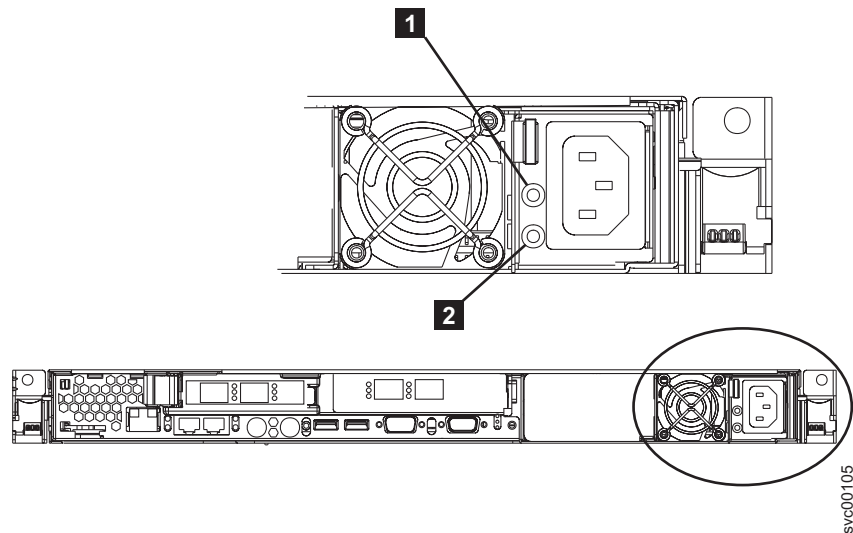

Figure 187. SAN Volume Controller 2145-8F4 or SAN Volume Controller 2145-8F2 ac and dc power LEDs
5. Make sure that the power-supply fan starts and the ac power LED **1** and dc power LED **2** (shown in Figure 187) on the power supply are lit, indicating that the power supply is operating correctly.